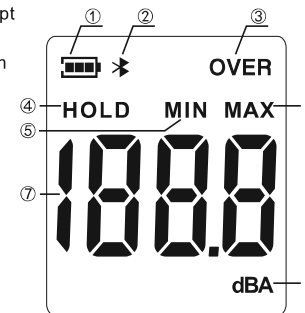

Figure 3
D. LCD Display (referring to Figure 3)
- ①. Battery power prompt sign.
- ②. Bluetooth (Bluetooth version only).
- ③. OVER warning sign/reading exceeding measuring range.
- ④. Data retention.
- ⑤. Maximum value.
- ⑥. Minimum value
- ⑦. Sound level reading value
- ⑧. Sound level unit of (A weighting)